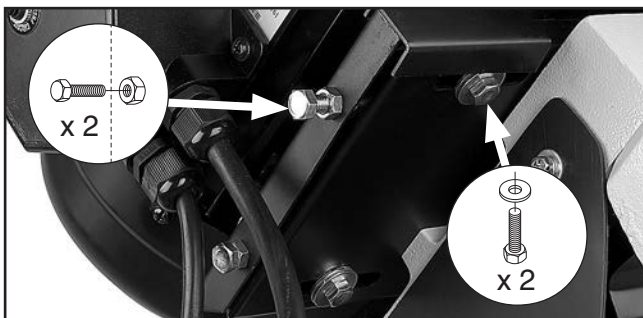

Figure 15. Motor mounting fasteners installed.
3. Thread (2) $\frac{5}{16}$ "-18 x 1" hex bolts with $\frac{5}{16}$ " hex nuts into side of motor mount plate, then thread (2) $\frac{5}{16}$ "-18 x 1" hex bolts with $\frac{5}{16}$ " flat washers into motor mount bracket (see **Figure 15**).